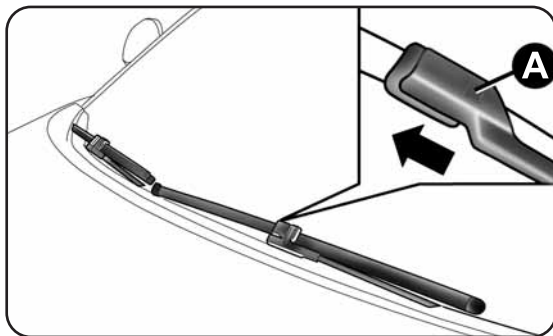

fig. 166
- lift the windscreen wiper arm, press the tab A-fig. 166 of the fastening clip and extract the blade from the arm;